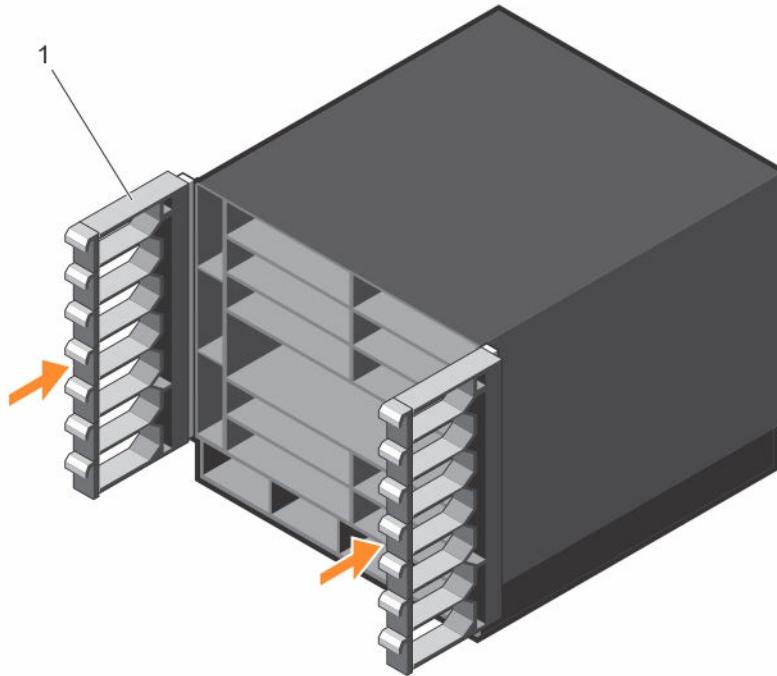

Figure 27. Cable Management Brackets Installed on Chassis
2. Press the bracket forward so that the bracket holes cover the pins and thumb screws on the flanges (item 1 in Figure 27). The bracket locks in place as you press it forward.